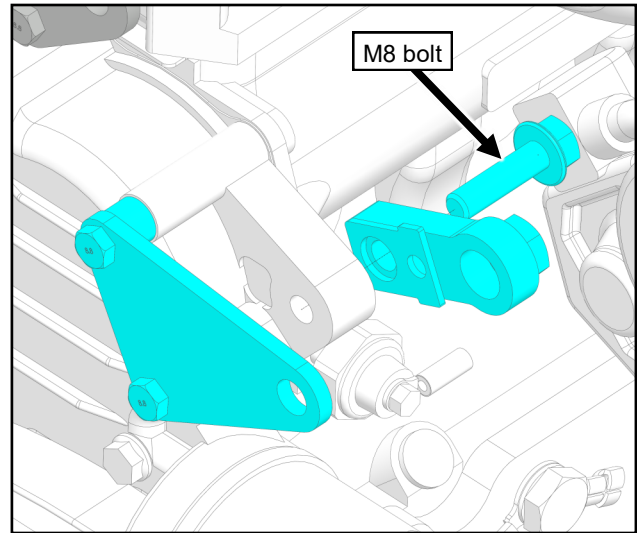

Fig. 3.7 (Lower Rear Bracket)
- 3.7 Install lower rear alternator mounting bracket per Figure 3.7. Leave bolt finger tight.